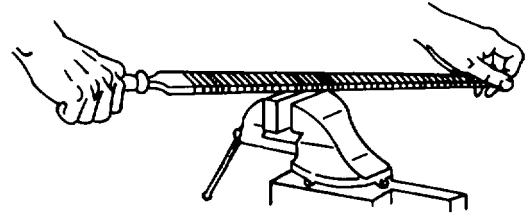

Figure 4-76. Crossfiling
(2) *Crossfiling.* Crossfiling means that the file is moved across the surface of the work in an approximate crosswise direction. This is shown in figure 4-76. To use this method, proceed as follows: